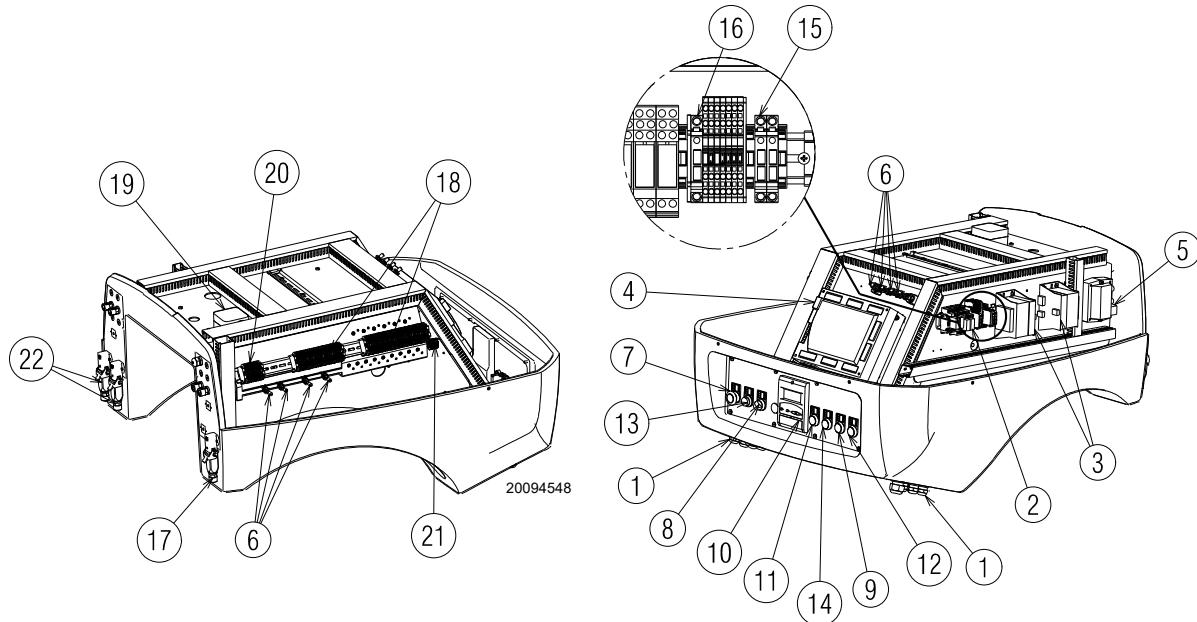

Fig. 6
► **Control box lockout:** switching on of button 13)(Fig. 6) (red led) signals that the burner is in lockout. release by pressing the pushbutton 13)(Fig. 6).